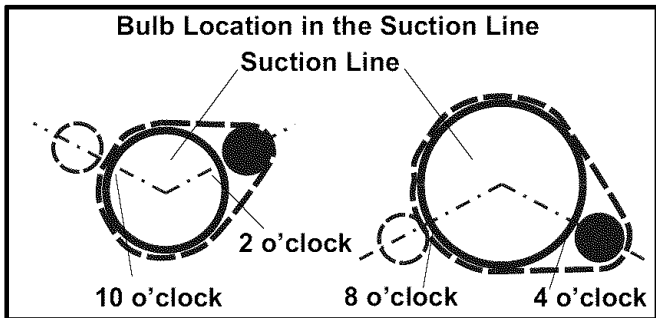

FIGURE 4
- 9 - Attach the expansion valve sensing bulb on a horizontal section of the suction line in the 2, 4, 8, or 10 o'clock position. **The position of the sensing bulb is critical to ensure that the systems performs properly.** Refer to figure 4.